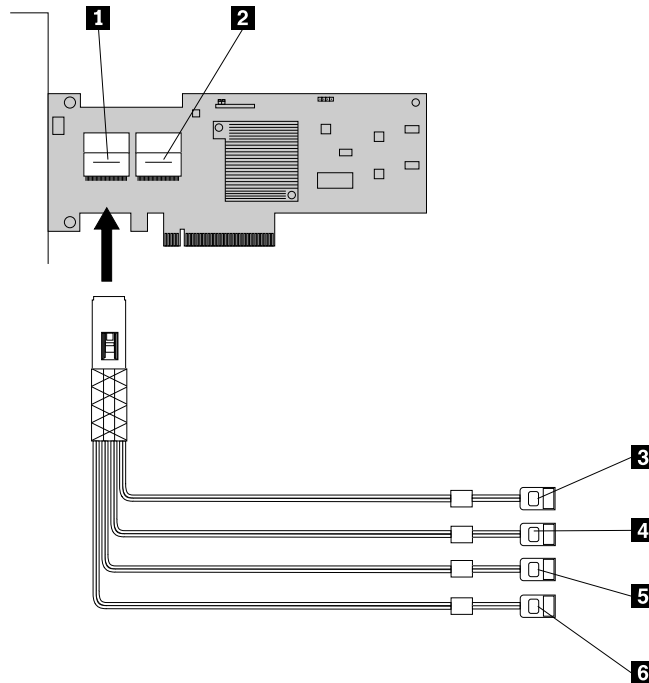

Figure 56. Connecting the mini SAS signal cables
7. Connect the mini SAS signal cable to the mini SAS signal cable connector 0 on the RAID card. See Figure 56 “Connecting the mini SAS signal cables” on page 71.